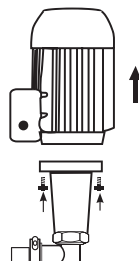

Figure 4
- Remove motor from pump tube. For models **SP-800SR**: loosen Hex Nut in clockwise rotation (see Figure 3). For models **SP-800DD**: loosen (4) bolts that attach the pump to the motor (see Figure 4).
- Reattach motor and resume operation. (SP-800SR: see Figure 3, page 4); (SP-800DD: see Figure 4, page 4).